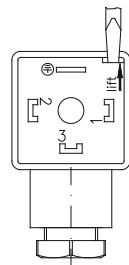

Fig. 6
- ↳ Open the core ⑧ of the cable socket ② with a screwdriver or similar tool (→ Fig. 6).